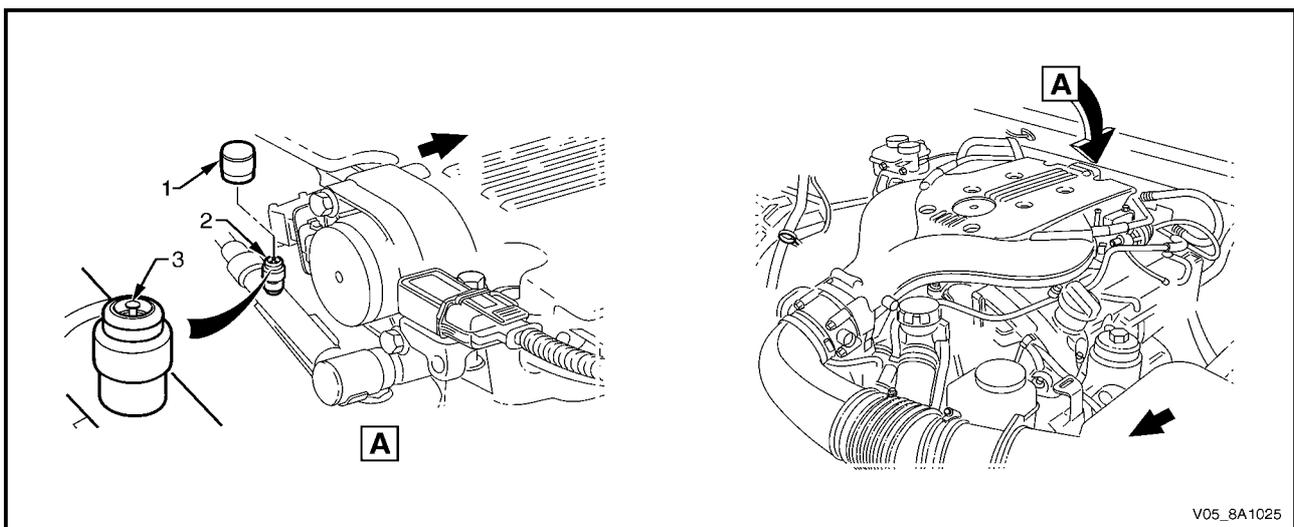

Figure 8A1 – 27
- 7 At the fuel pressure test point (2), remove the Schrader valve sealing cap (1), refer to Figure 8A1 – 27 (for vehicles fitted with a V6 engine) or Figure 8A1 – 28 (for vehicles fitted with a GEN III V8 engine).